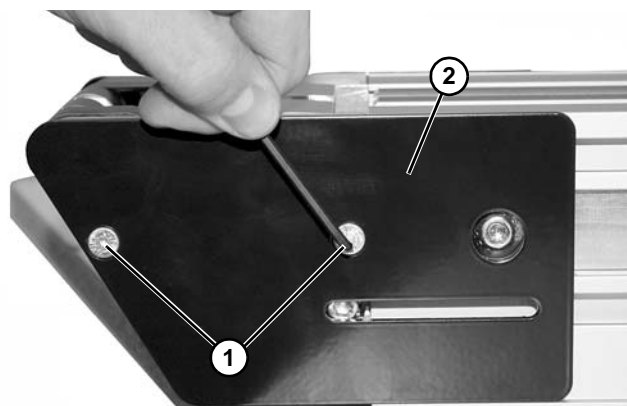

Figure 90
3. With tail assembly on an open work surface, remove two flat head screws (**Figure 90, item 1**) on both sides of the transfer tail. Remove the outer plate (**Figure 90, item 2**).